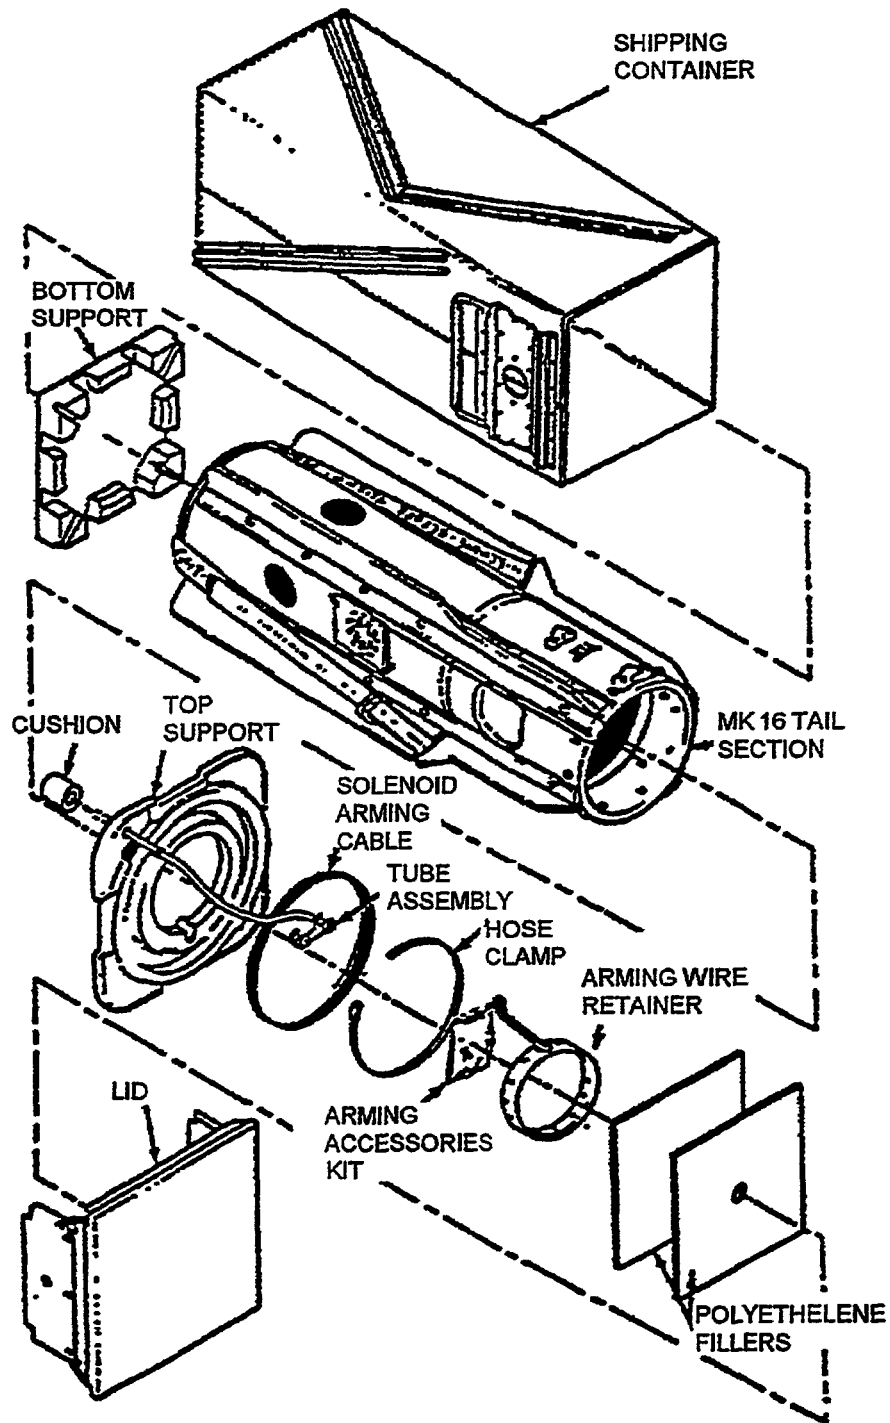

Figure 4-8A. Mine Flight Gear Kit Mk 164 Unpacking
- Open container latches and remove cover and fillers from container (Figure 4-8A).